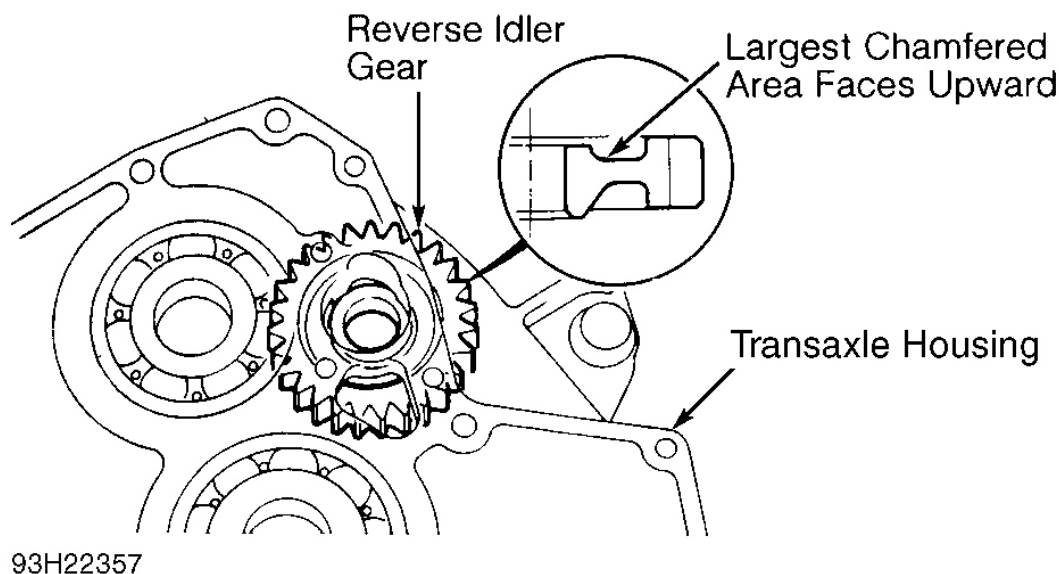

Fig. 34: Installing Reverse Idler Gear (1993 Models)
19. Install reverse idler gear in transaxle case. On 1993 models, ensure largest chamfered area on reverse idler gear is facing upward (away from transaxle housing). See **Fig. 34** .